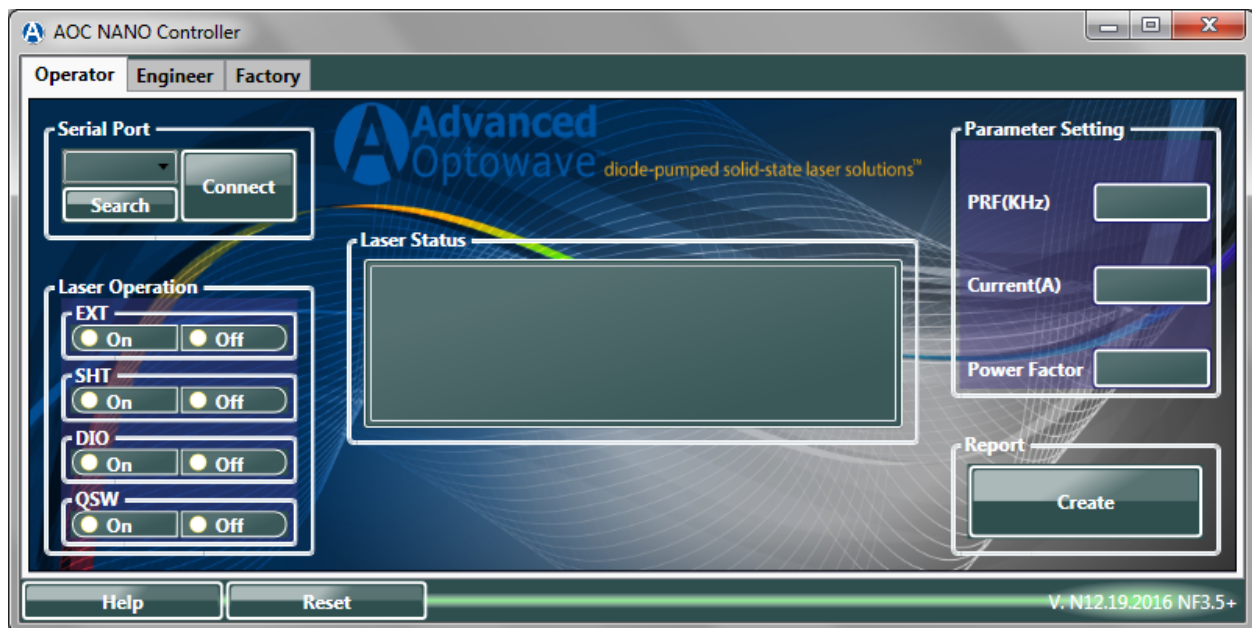

Figure 16: Advanced Optowave Graphical User Interface – GUI
Figure 16 shows the “User” window of the graphical user interface.
4.5.1 Operator Window Section Definitions – (Figure 16)